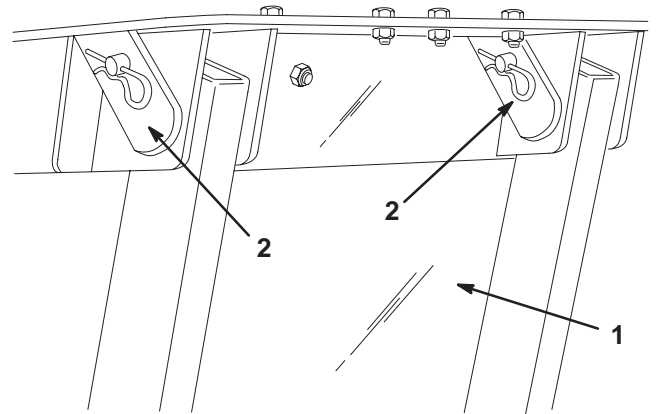

Figure 17
- Remove tie straps securing tie rods to hopper arms. Install (2) 5/16 – 18 x 1" lg. carriage bolts and flange nuts in hopper arm holes where tie straps previously were.
- Slide hopper assembly (hopper cover to rear) into side frame aligning mounting holes in hopper with holes in frame (Fig. 17).
- Secure hopper to frame with (2) welded mounting pins and hair pin cotters (Fig. 17).